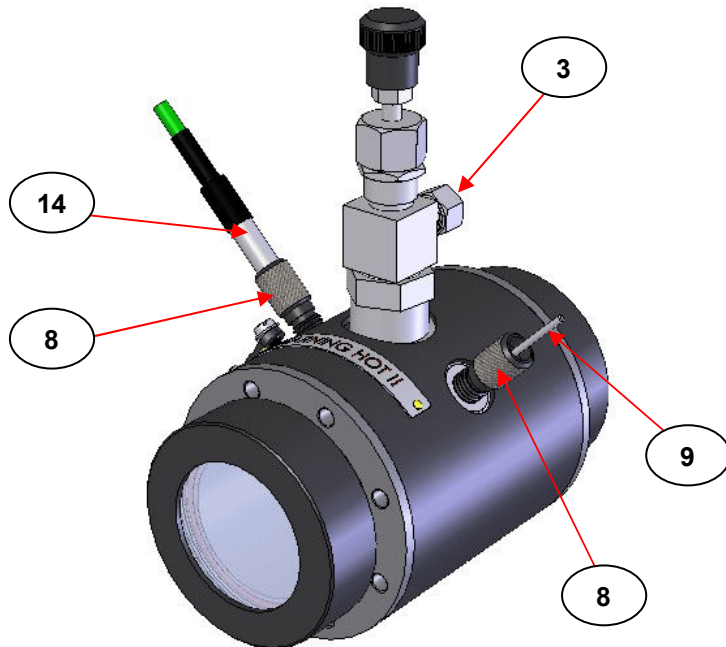

Fig 6. Monitoring Thermocouple Fitted to an Inlet/Outlet Port (Pin Rod Fitted to the other Inlet/Outlet Port)
To carry out any Gas Cell measurements where **monitoring** of the temperature of the gas environment is required, one of the pin rods (9) is removed from the screw fitting (8) and replaced with the **monitoring thermocouple assembly** (14). (See Fig 6.)
For this build configuration of the Storm 10H Heated Gas Cell it is constructed as seen at **Figs 6 and 7**.